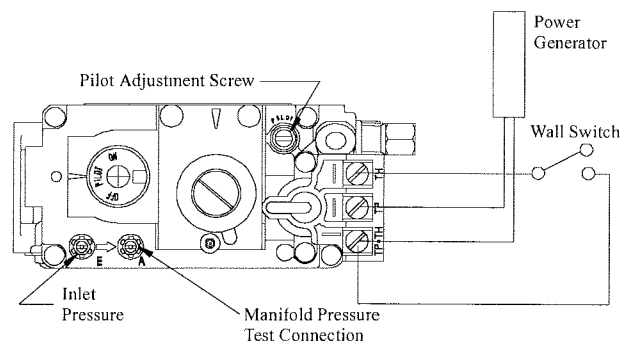

Figure 25. Sit Nova 820 gas valve.
- Have the fireplace installation inspected yearly, including a visual check of the vent system, the burner and the pilot flame. For your convenience a 1/8" manifold pressure tap is supplied on the gas valve for a test gauge connection. See Figure 25.
1. Locate Pilot Adjustment Screw. (See figure 25.)
Pilot won't ignite	Disconnect remote wires and try to light pilot. If pilot now works, remote connections are faulty. Check wiring diagram figure 25 .
Main burner will not light	1. Check wiring (see figure 25). 2. Check wall switch for proper connection.